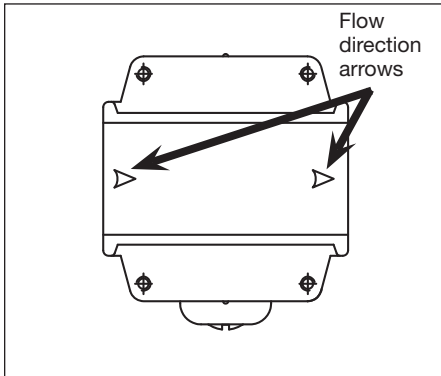

Figure 2 - Detail showing location of flow direction arrow
1. Locate the air flow direction arrow (See Figure 2, detail). This arrow shows the direction of the air flow.
3. Verify the arrow points in the direction of the air flow. (See Figure 2.)